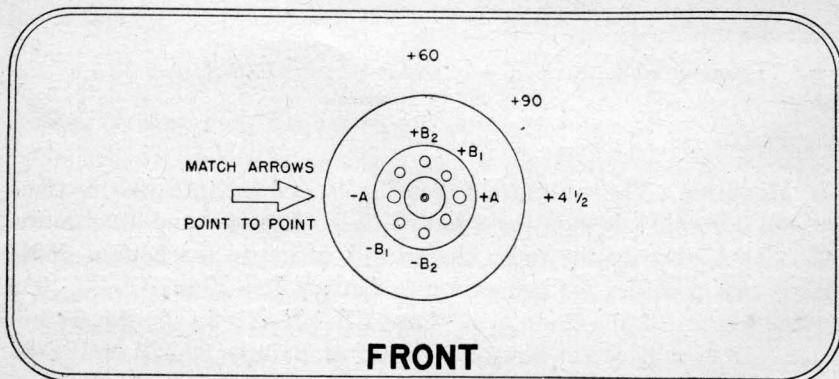
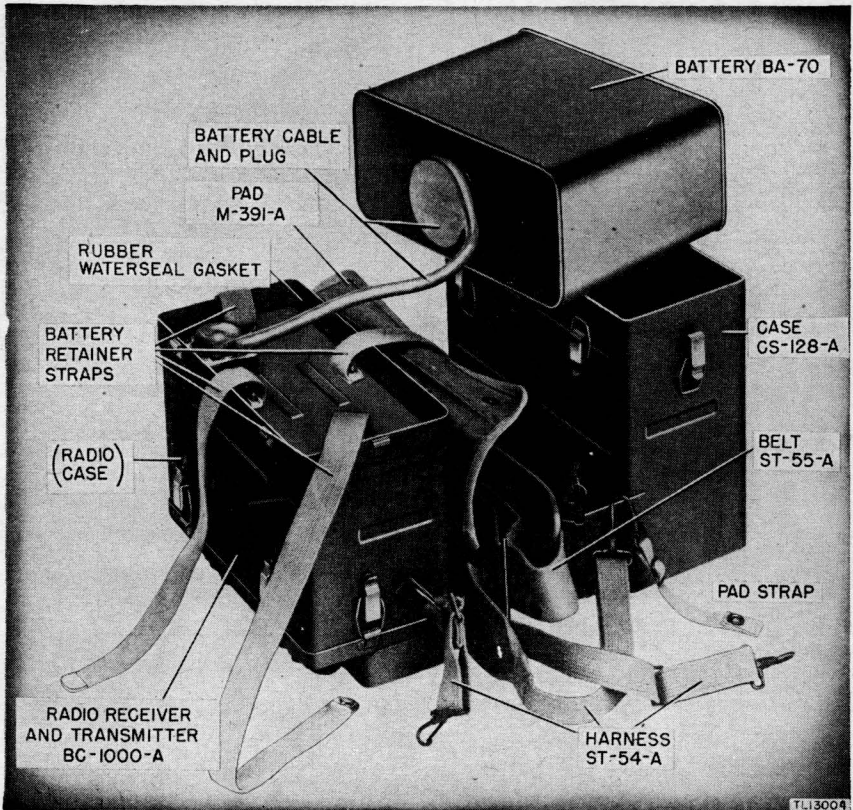

Figure 7. Battery BA-70 or BA-80—top view.
Figure 9. Radio Receiver and Transmitter BC-1000-A, battery cable connected to Battery BA-70—disassembled view.
hours of service; or Battery BA-80 which gives 12 to 14 hours of service. These figures apply only in moderate climates. Each battery consists of three dry-battery sections of 4.5 volts, 60 volts, and 90 volts, respectively. (See fig. 7.) The first section supplies the necessary voltage to the microphone circuit and to the filaments of the radio receiver and transmitter. The second and third sections, connected in series, supply 150 volts to the plate circuit of the transmitter. The third section supplies 90 volts to the receiver plate circuits. The battery is electrically connected to the radio chassis by a flexible rubber-covered cable and plug assembly and is fastened with web straps. (See fig. 9.) As has been mentioned, Battery BA-80 is similar to Battery BA-70, differing only in physical size and current capacity. (See table II.) Battery BA-80 is used when extreme portability and lightness of weight are necessary.
c. Support the battery on the case as shown in figure 9 and plug the rubber-covered power cable plug into the battery socket so that the arrow on the plug points to the arrow on the battery.